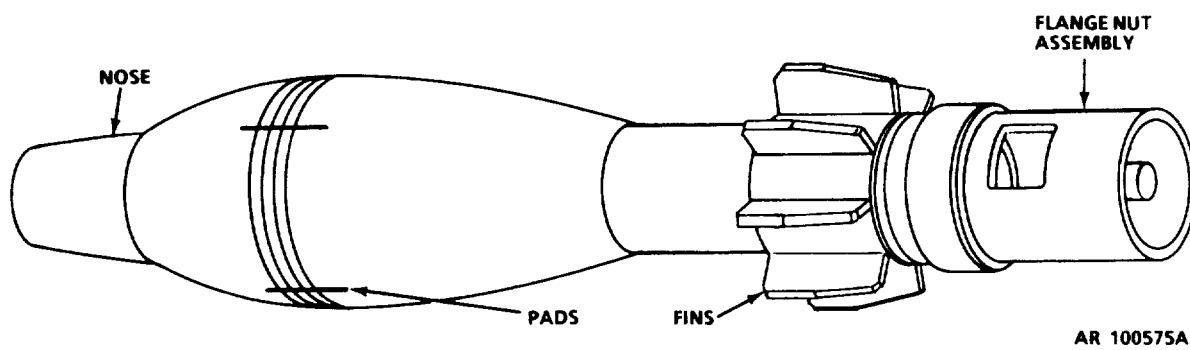

Figure 1-1. 81 mm Sabot, M1.
a. General. The 81mm Sabot (INERT) M1 (fig. 1-1) is designed to fire a 22mm subcaliber practice cartridge M744, M745, M746 or M747 (charges 1, 2, 3, or 4, respectively) (fig. 1-2) as training device in all model 81mm mortars. The Sabot with 22mm sub-caliber practice cartridge provides realistic mortar firing training at distances which correspond to range fire distances in the ratio of 1 to 10. The subcaliber device can be fired using standard mortar and sighting and fire control equipment and a special firing table (fig. 2-8) in the same manner as standard service mortar ammunition.